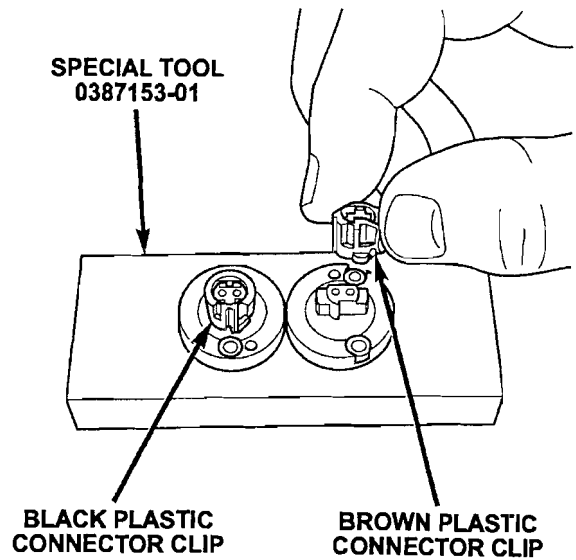

Figure 5
- Place the new plastic connector clips onto Special Tool 0387153-01 as shown in Figure 5 and 6.